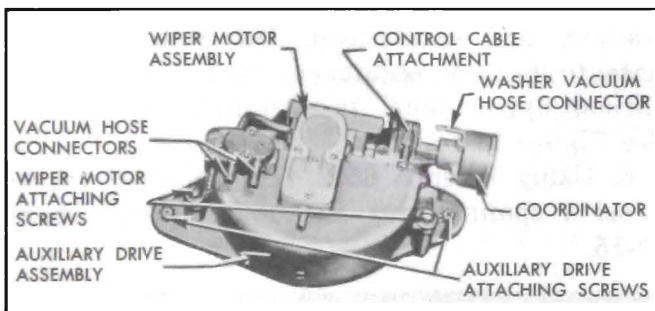

Figure 13-12—Windshield Wiper Motor
1. Remove two wiper motor to support attaching screws with washers and disengage motor from auxiliary drive assembly. See Figure 13-12.
wiper motor and remove wiper motor. See Figure 13-12.
4. Disconnect wiper motor from auxiliary drive by removing motor attaching screws. See Figure 13-12.
5. Remove auxiliary drive to dash attaching screws. Carefully break seal between auxiliary drive and gasket on body and remove drive. See Figure 13-12.
1. If necessary, cement new auxiliary drive gasket to body with weatherstrip cement and install auxiliary drive. See Figure 13-12.
2. Install windshield wiper motor. See Figure 13-12.